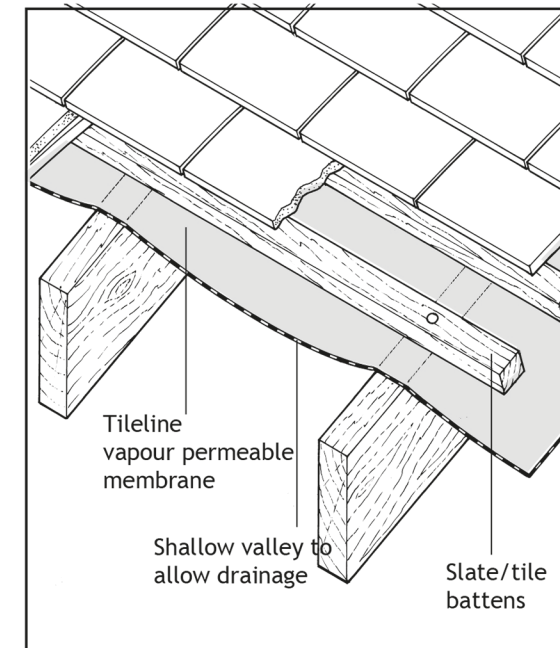
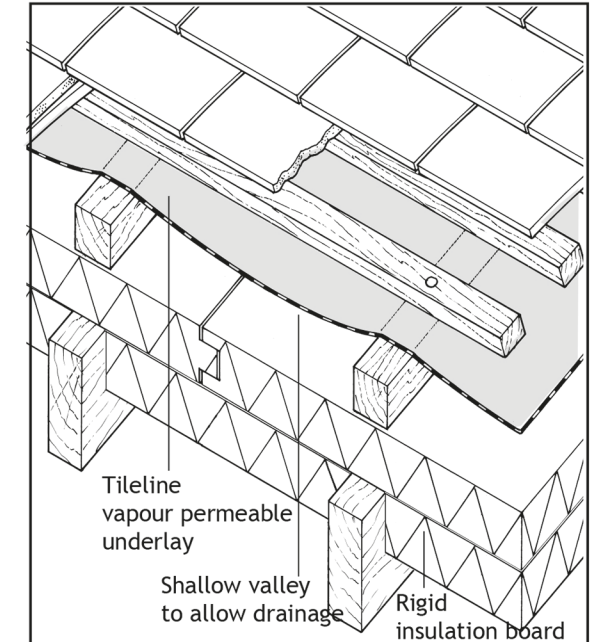
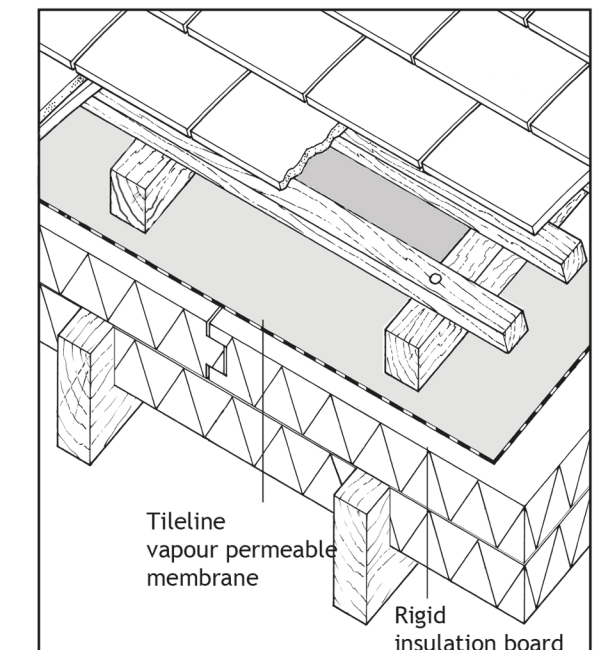

Fig 1
Fig 2
Fig 3
- Tileline vapour permeable membrane may be used for cold roofs with ventilated or unventilated loft spaces (see Fig 1) or warm roofs with insulation between and or above rafters (see Figs 2 and 3).
If the ceiling is well sealed, as defined in BS 5250, condensation can be controlled by the use of Tileline vapour permeable membrane with no additional ventilation. Tileline vapour permeable membrane can be laid draped unsupported (see Fig 2) or fully supported on insulation (see Fig 3). To ensure the integrity of a well sealed ceiling, a separate vapour control layer such as Protect VC Foil Ultra must also be used on the warm side of the insulation.